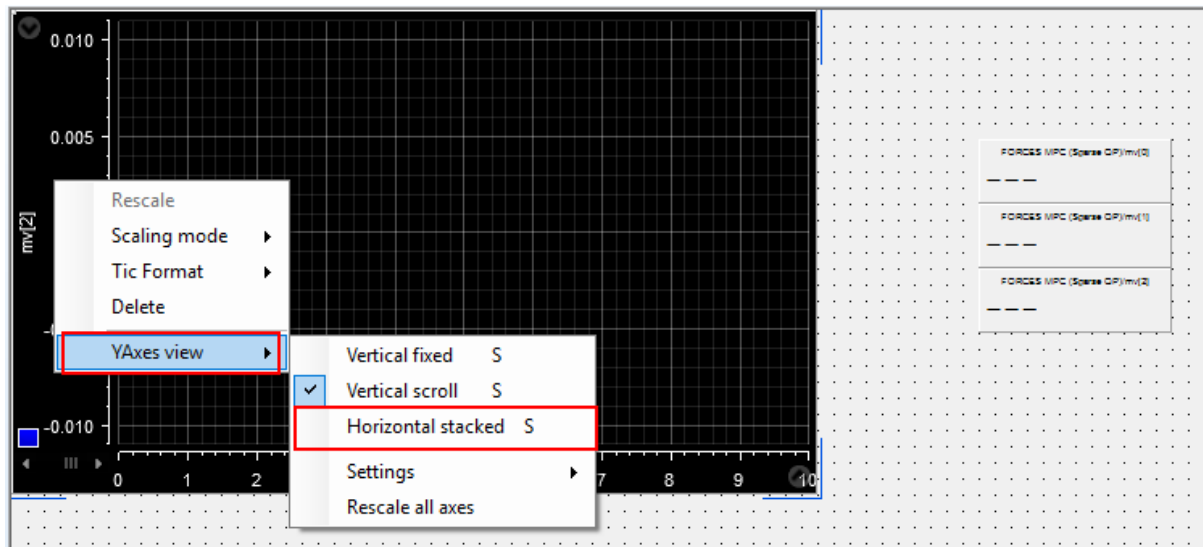

Figure 6.18: Select to show all the signals on the same plot with their own Y-axes
- 14) To see all the plots concurrently right-click on the left of the Y-axis and select **YAxes-view> Horizontal stacked** (see Figure 6.18).